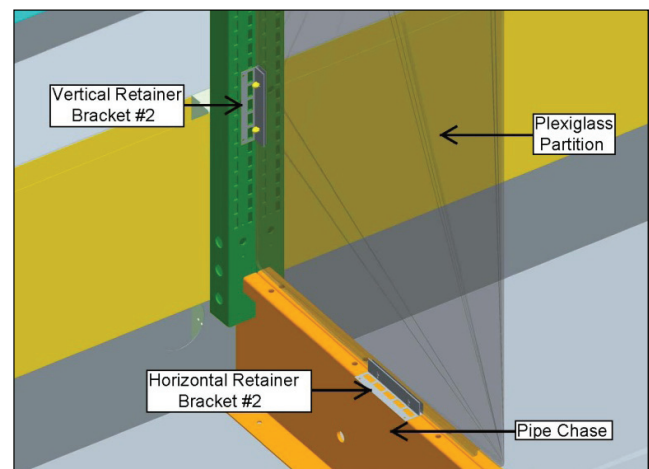

Figure 2: Bottom of Plexiglas
STEP 3 Slide Horizontal Retainer Bracket #2 onto the bottom of the Plexiglas partition as shown in figure 2. Align the partition parallel to the pipe chase and secure the bracket by drilling directly into the pipe chase using the supplied tek screws. Slide Horizontal Retainer Bracket #1 onto the top of the Plexiglas partition and secure it to the top flue of the case using the supplied tek screws. Secure the partition using the retainer bolts and nuts in the horizontal retainer brackets as done in step 2.